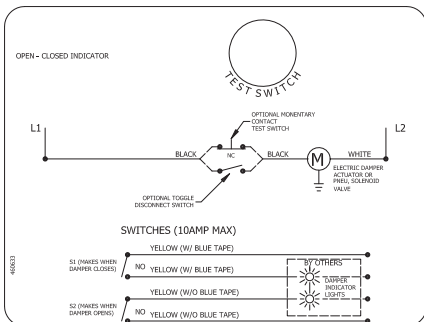

Figure 7: OCI
**OCI** - The OCI (open or closed indicator) option contains two single pole single throw switches used to indicate the damper blade position. The switches provide a positive open and closed signal and can be used in conjunction with remote indicator lights. Refer to **Figure 7** for wiring of the OCI option.